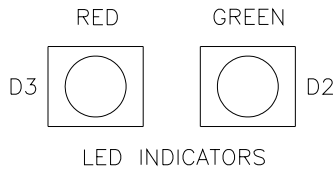

Figure 1-1
- Figure 1-1 Location of Unit Reset Pins